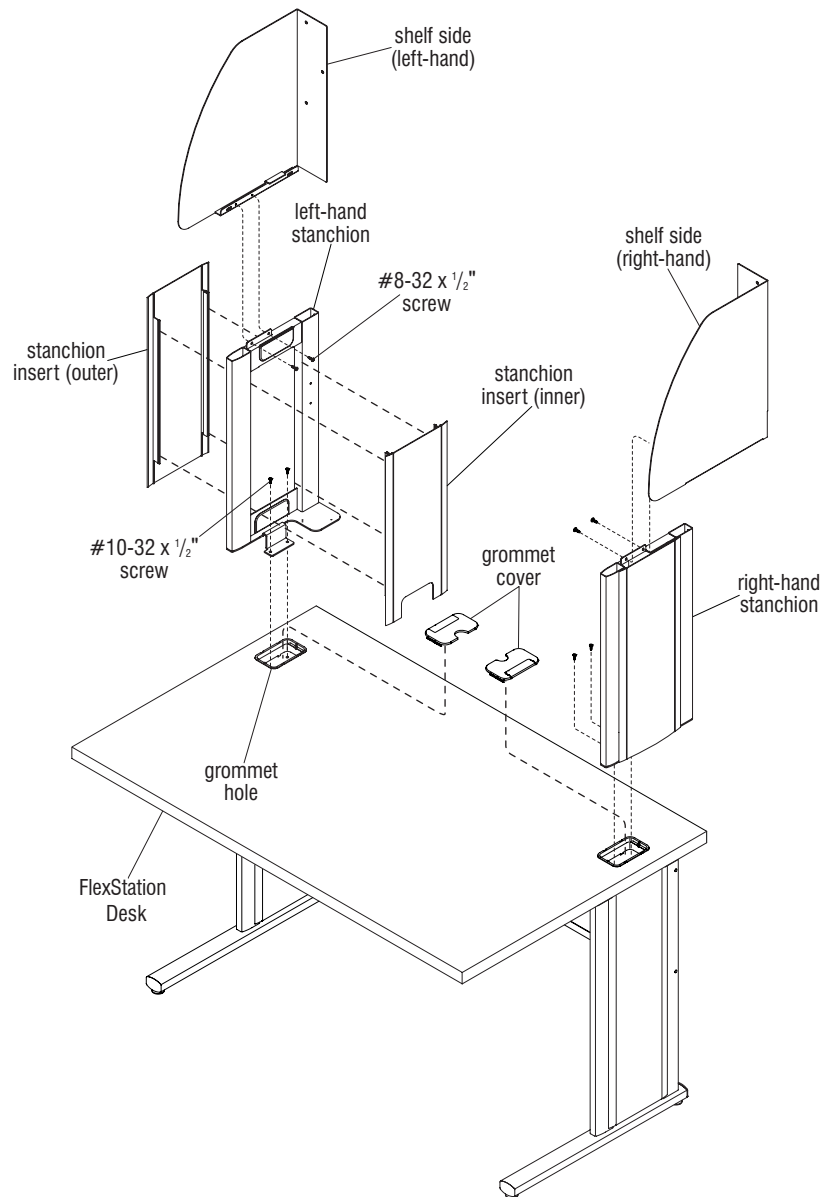

Figure 5
1. Begin by removing grommet covers from the back sides at the top of the desk where the overhead shelf will install (Figure 5).
2. Reference Figure 5 below to identify the left- and right-hand stanchions, as well as the left- and right-hand shelf sides. One side at a time, position the appropriate stanchion as illustrated such that the lower mounting bracket of the stanchion inserts into the grommet hole. Align the mounting holes in the bracket with the holes in the top of the leg and secure using two #10-32 x 1/2" screws (Figure 5).
3. Orient the right- and left-hand shelf sides as illustrated, then nest them into the tops of the stanchions and align the mounting holes. Secure from the inside using two #8-32 x 1/2" screws at each stanchion side (Figure 5).